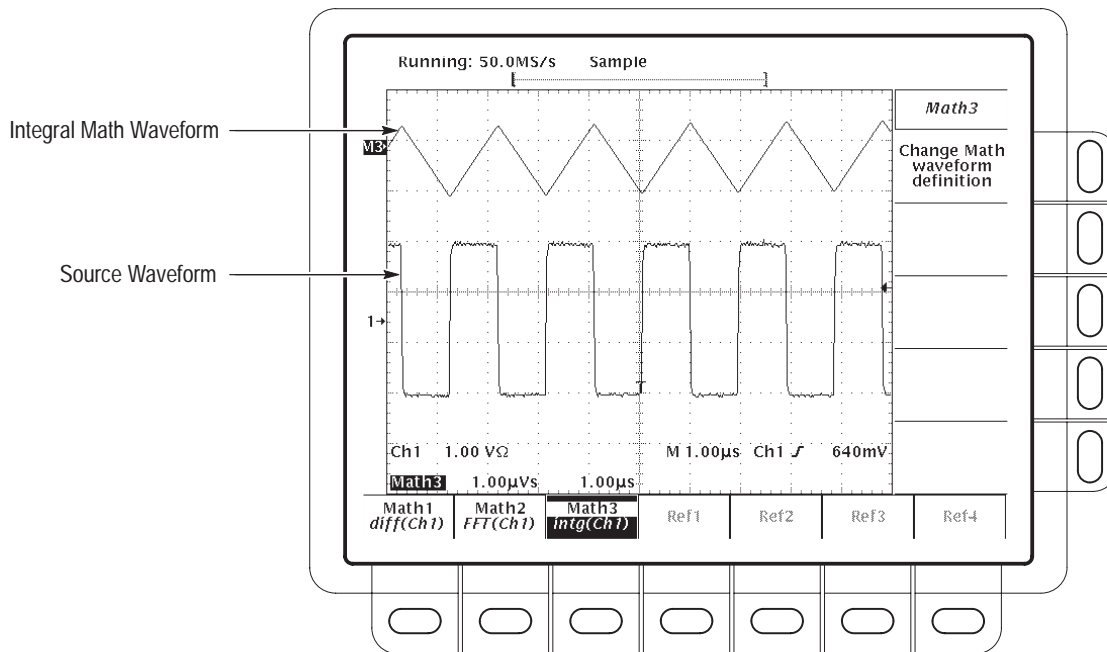

Figure 3-75: Integral Math Waveform
6. Press **OK Create Math Waveform** (side) to turn on the integral math waveform (see Figure 3-75).